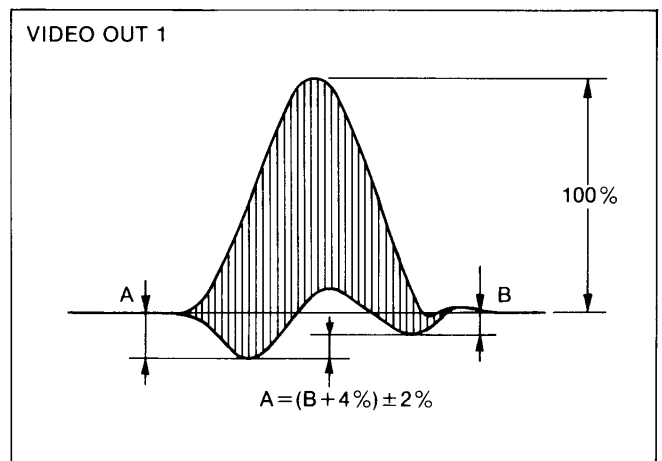

Figure E43
4. Adjust VR8007 so that the waveform becomes as shown in Figure E43.